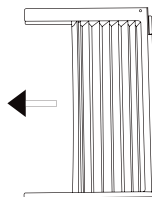

Fig. 1
A. Place unit on floor, a bench or a table. Hold the accordion panel in one hand and gently pull back the centre to free the open end. See Fig.1.